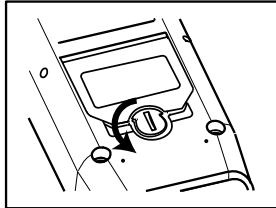

Figure 1: Backside of Main Unit
1. Using a coin, turn the battery cover lock as shown in figure 1 to open cover.
3. Turn the cover lock in the opposite direction of figure 1 to close cover.